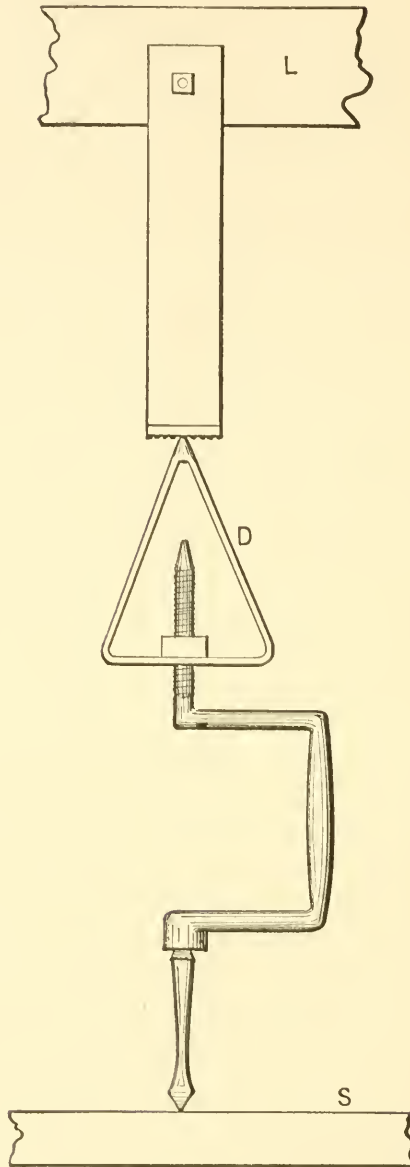

Fig. 85—Showing the Joist, Vise Bench, and Drill.
*B, B*, together, and the brace is then ready to be put together as shown in Fig. 85. I next take a piece of scantling 4x4, cut a mortise in one end as shown in Fig. 84, and bore a half-inch hole at *R*, and fasten
end of the piece shown in Fig. 84, and "dot" it well to keep the drill from slipping off. In Fig. 85 the brace is shown completed, *L* being the joist and *S* the vise bench. This is a handy and cheap way to make a drill, and answers well in a small shop where room is scarce. This make of drill works on the same principle as the ratchet drill, and can be adapted